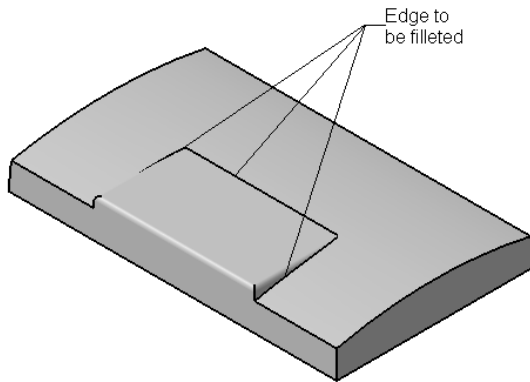

Figure 6-99 Edge to be filleted
5. Select the edge shown in Figure 6-99 and set the value of the **Radius** spinner to **1**.